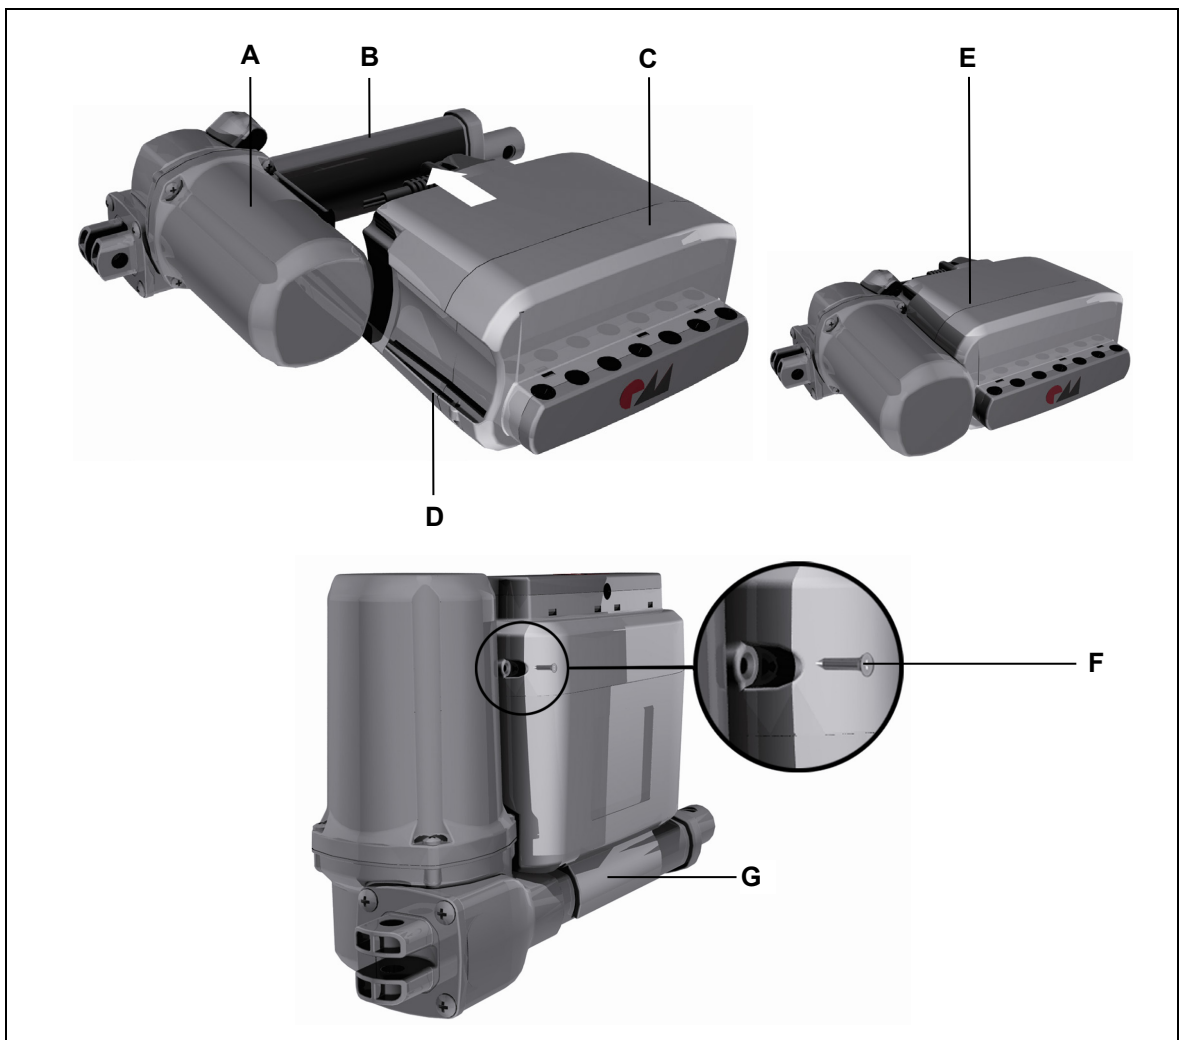

Figure 9 Mounting the MC11 control unit
- 2 A screw can also be used to secure the MEGAMAT MLZ drive to the MC11 control unit. Tighten the screw (F), as shown in Figure 9. Use a fastening screw with the dimensions 3.5 mm x 13 mm (ISO 7049-ST).
- 3 Unscrew the screw, as shown in Figure 9.